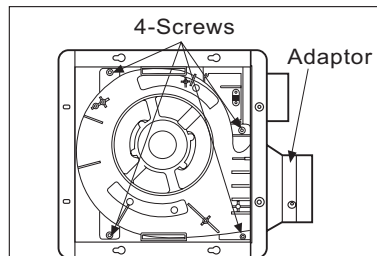

Fig.12-1
1. Loosen 4 screws (but do not remove them from blower). (Fig.12-1)